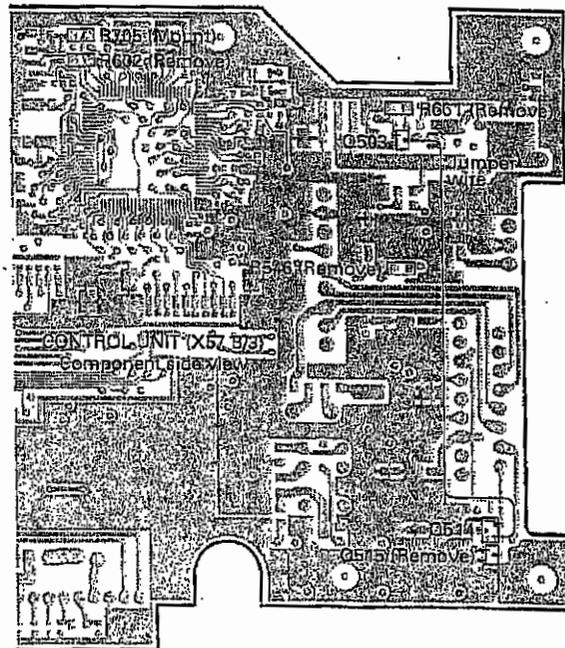

Fig. 8
3. Remove Q515 and jumper to Q503 and Q514 according to the figure 8.